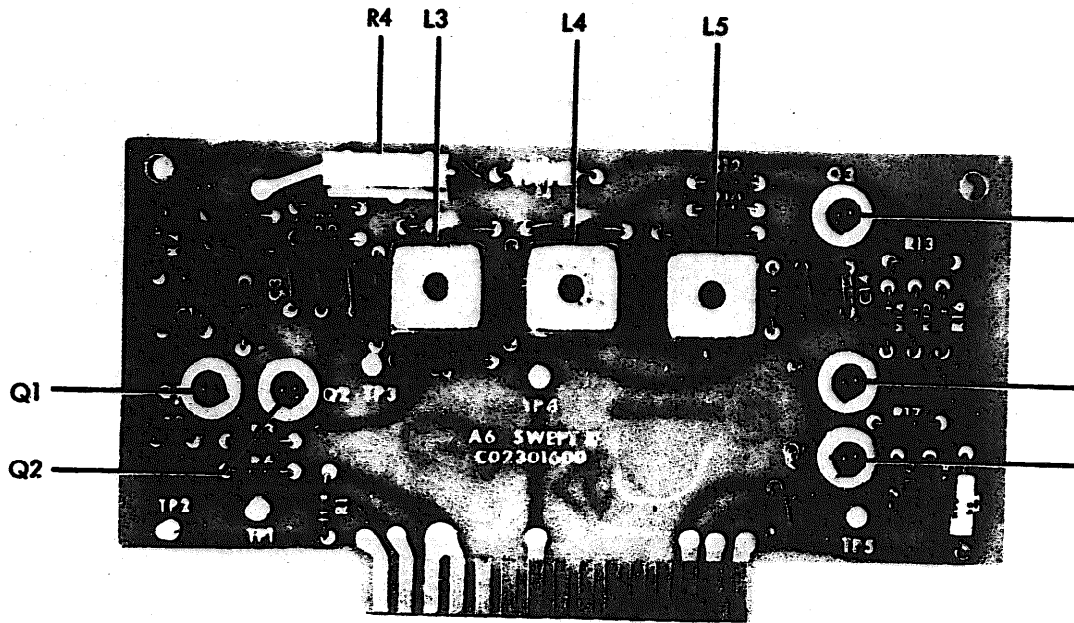

Figure 4-6. Module A6, Swept IF CO2301600
7. Swept IF, module A6 (Figure 4-6)